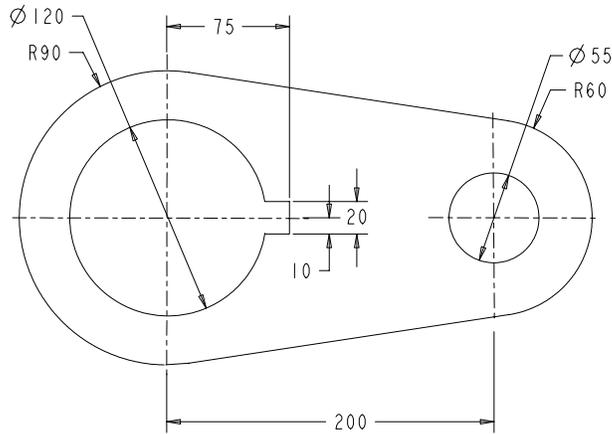

Figure 2-23 Sketch for Tutorial 1
In this Tutorial you will import an existing sketch that you had drawn in Tutorial 3 of Chapter 1. After placing the sketch, draw the keyway, as shown in Figure 2-23.
4. Modify all dimensions. Refer to Figure 2-23 for dimension values.